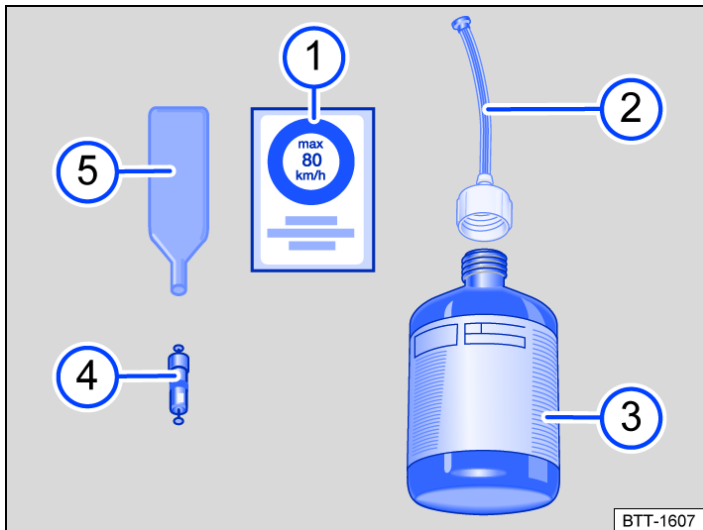

Fig. 1 Illustration: components of the breakdown set.
The breakdown set consists of the following items → Fig. 1:
- ① Sticker with the maximum permitted speed "max. 80 km/h" or "max. 50 mph".
- ② Tyre sealant tube with plug.
- ③ Tyre filler bottle.
- ④ Spare valve core.
- ⑤ Valve core extractor.
There is a slot on the lower end of the valve core extractor → Fig. 1 ⑤ for the valve core. This is required for extracting the valve core from the tyre valve and then screwing it back into the valve again. This also applies to the spare valve core ④.